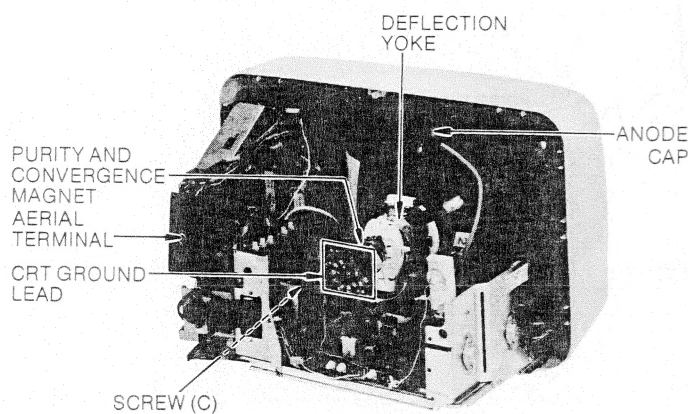

Figure 3. Chassis View
3-2. DRAWING OUT AND SERVICING THE CHASSIS (See figure 3)
1. Detach the CRT ground lead from CRT SOCKET BOARD. (See figure 3)